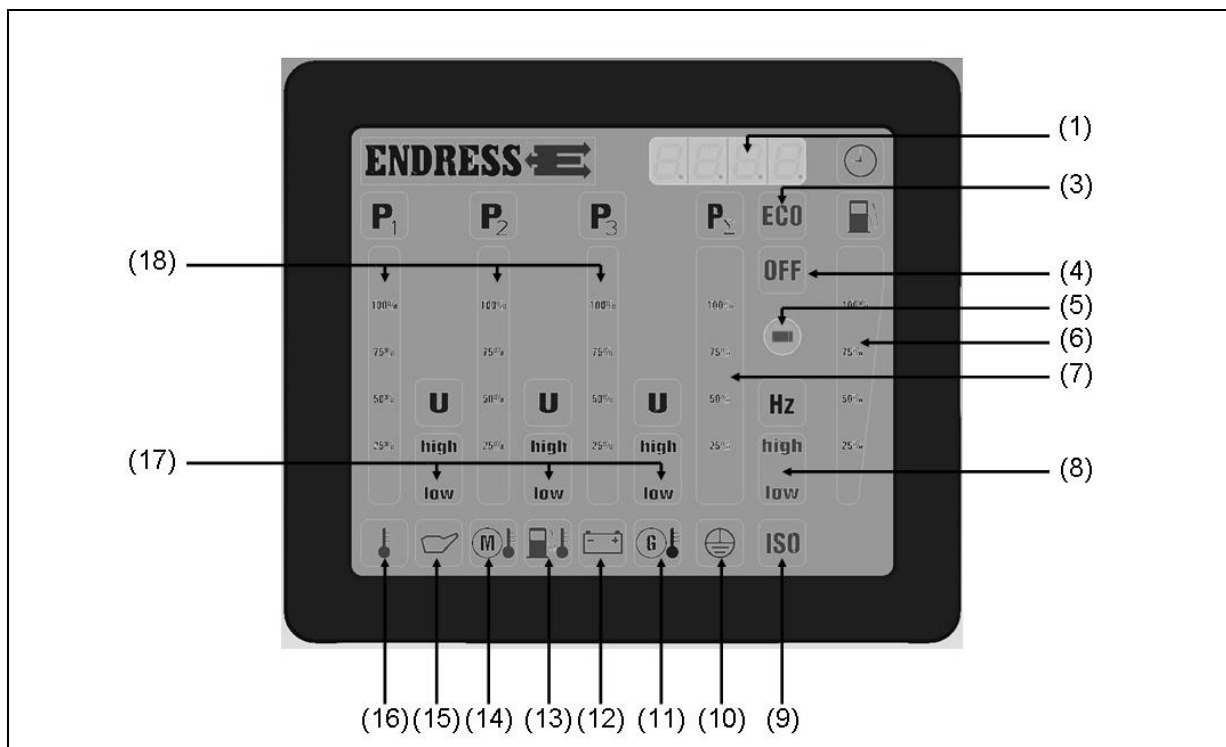
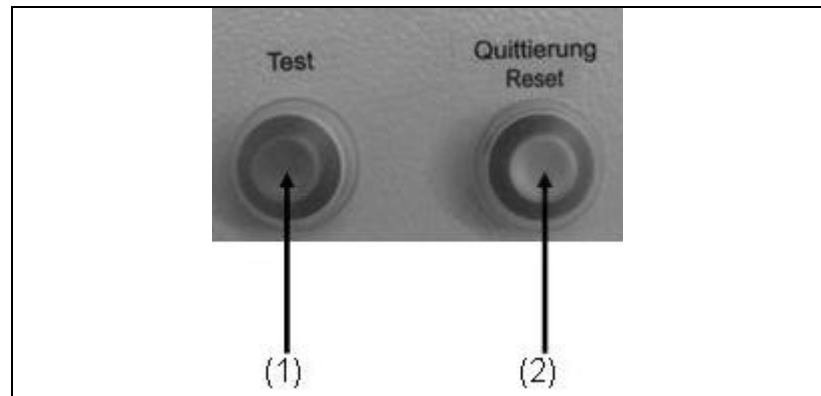

Fig. 4-6: Multi-functional display
Fig. 5-2: Insulation monitoring with E-MCS 4.0
Electrical start All LEDs light up for about 2 seconds to allow checking as soon as the START-STOP switch is set to the position "Operate". The normal operational lighting is then shown afterwards for about 30 seconds. If the engine is not started within this period, the E-MCS 4.0 goes into energy saving mode and the indicator goes dark. To bring the E-MCS 4.0 back into a ready-to-operate condition again, the START-STOP switch must first be turned into the position "STOP". The display intensity is dependent on the ambient brightness (sensor see Figure 4-6-(5)).
Operating hours: Displayed (see Fig. 4-6-(1)) when the generator starts or is activated for 30 seconds when the START / STOP switch is turned to the "Operate" position.
Ambient temperature: If the display is red (see Fig. 4-6-(16)) whilst the generator is running then the temperature is too high and the generator must be switched off.
- Oil pressure:** If the display (see Fig. 4-6-(15)) lights up red whilst the generator is running then the oil pressure is too low and the generator switches automatically or the buzzer sounds, this can be acknowledged using the acknowledgement button.
- Engine temperature:** If the display is red (see Fig. 4-6-(14)) whilst the generator is running then the engine temperature is too high and the generator must be switched off.
- Fuel temperature:** If the display is red (see Fig. 4-6-(13)) whilst the generator is running then the fuel temperature is too high and the generator must be switched off.
- Battery charge check:** If the display glows red (see Fig. 4-6-(12)) then the generator's recharging function is not working.
- Insulation monitoring:** If the display lights up red (see Fig. 4-6-(9)) or if the buzzer sounds then there is an insulation fault present. (see Chapter 5 Insulation monitoring).
- Protective earthing conductor test:** If the display glows green (see Fig. 4-6-(10)) during the protective earth lead test (see chapter 4.7 Protective earth lead test), the protective earth leads for the attached devices are OK. If the protective earth conductor function is not available, the display remains blank.
Fuel tank filling level: The display (see Fig. 4-6-(6)) gives a rough indication of the contents of tank.
Frequency: If the display glows green (see Fig. 4-6-(8)), the frequency is within the correct range (47.5–52.5 Hz).
L1, L2 & L3 phases: The single L1 to L3 phases (see Fig. 4-6-(18)) are displayed separately:
Voltage (U) (see Fig. 4-6-(17)):
Load (P) (see Fig. 4-6-(18)):
Relative load indicator: Load (P_{Σ}) (see Figure 4-6-(7))
If the "OFF" symbol glows red (see *Fig. 4-6-(4)*) and the buzzer sounds, the EMERGENCY OFF button has been pressed. The buzzer can be acknowledged using the acknowledgement button.
2. Press the test button (see Fig. 5-2-(1))
- ✓ The displayed symbol (see Fig. 4-6-(9)) indicates the result, the buzzer also sounds for insulation monitoring with this and it can be acknowledged over the acknowledgement button (see Fig. 5-2-(2)):
3. The reset button (see Fig. 5-2-(2)) must be pressed after the test has been completed so that the unit can be used again.
- ✓ The displayed symbol (see Fig. 4-6-(8)) indicates the result:
2. The reset button (see Fig. 5-2-(2)) must be pressed after switching off and disconnecting the device so that the unit can be operated again.
3. Press the test button (see Fig. 5-2-(1))
- 4. The reset button (see Fig. 5-2-(2)) must be pressed after switching off and the circuit breaker must be turned back to Pos. 1 so that the unit can be used again.